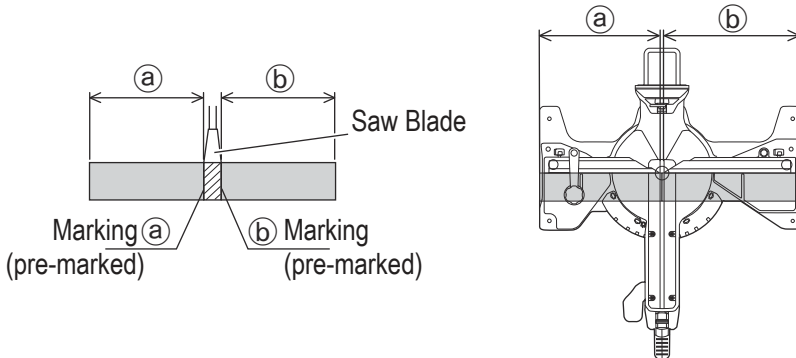

Fig. 21
- (1) As shown in Fig. 21 the width of the saw blade is the width of the cut. Therefore, slide the workpiece to the right (viewed from the operator's position) when length (b) is desired, or to the left when length (a) is desired. Turn the LED light, project the shadow of the blade onto the workpiece, align the left side or right side of shadow of the blade with the ink line on the workpiece.